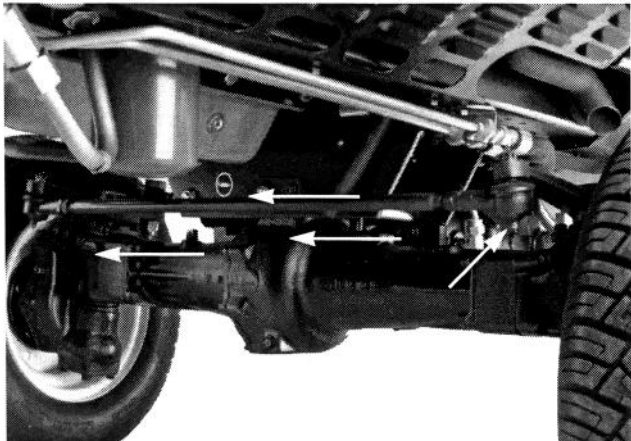
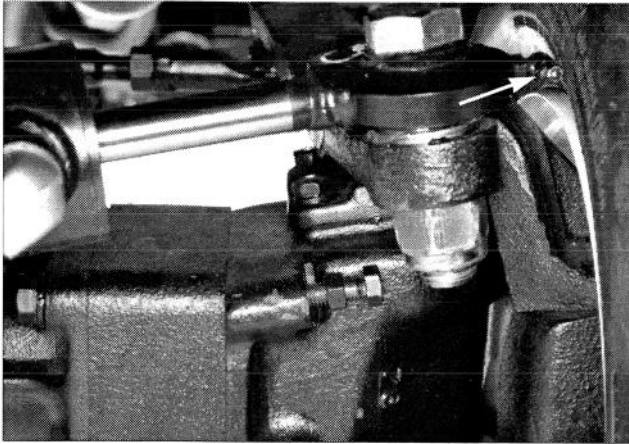

Figure 29
Figure 30
**4-Wheel drive machines only**—tie rod assemblies (2), center pivot (1), axle knuckles (2) (Fig. 29); cylinder ends (2) (Fig. 30).